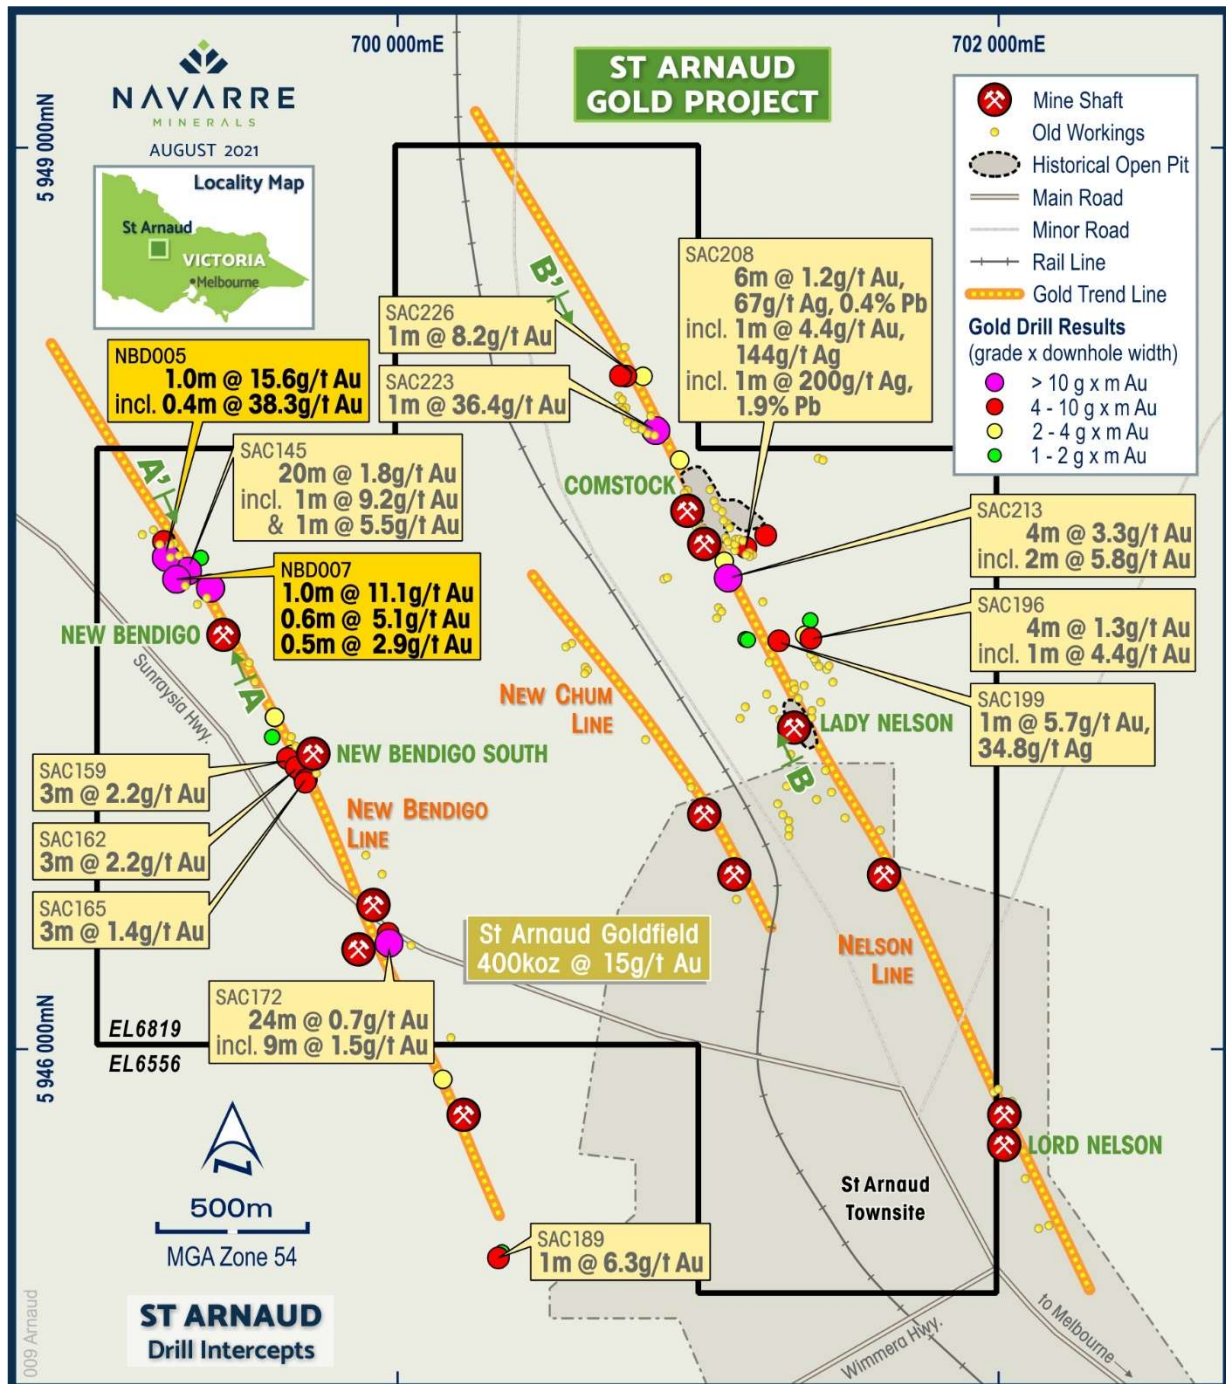

Figure 2: Location of Navarre's significant drill intercepts within the St Arnaud Goldfield.
The Company has received results for the first eight holes of the program, carried out on the New Bendigo Line (Figures 2 & 3). Highlights include a gold intercept of 0.4 metres at 38.3 grams per tonne (g/t) gold, within a broader interval of 1.0 metre at 15.6 g/t gold from 153.7 metres (NBD005).
The ongoing 9,000 metre, phase 1 diamond core program followed up encouraging air-core (AC) gold intersections around historic workings within the St Arnaud Goldfield. The target area is close to the old New Bendigo Mine, the second largest gold mine within the rich historical St Arnaud Goldfield that produced 400,000 ounces between 1855 and 1916 at an average grade of 15 grams per tonne (Figure 2).
After completing drill testing along the New Bendigo Line, the drilling rig will test multiple targets at the nearby Nelson Line which is also part of the St Arnaud Gold Project (Figure 2) for an expected total of approximately 4,000m.
Significant diamond core drilling intercepts from the New Bendigo Line include (see Tables 1 – 2 and Figures 2 & 3):
The St Arnaud Goldfield consists of several lines of reefs which were worked to the southern edge of the younger Murray Basin cover. These reef trends are known as the New Bendigo (Bristol), New Chum and Nelson lines (Figure 2).